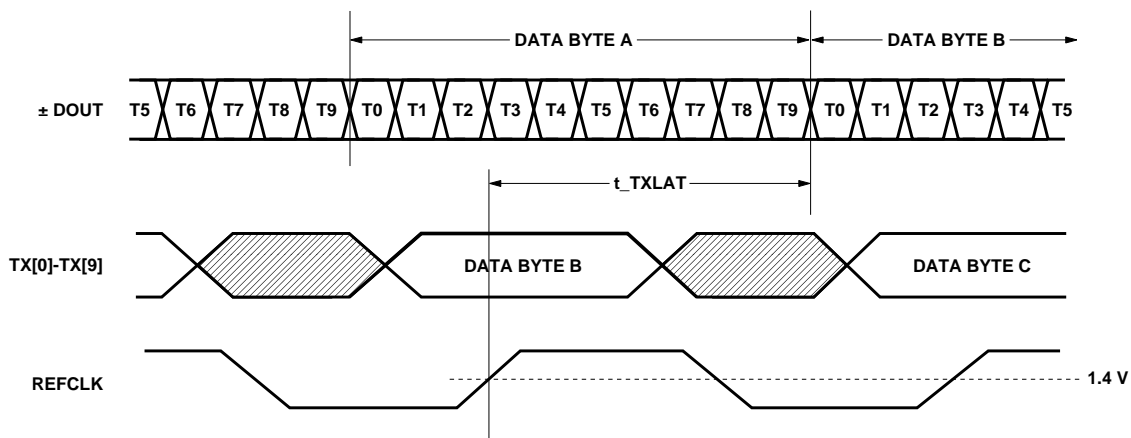

Figure 4. Transmitter Latency.
- The transmitter latency, as shown in Figure 4, is defined as the time between the latching in of the parallel data word (as triggered by the rising edge of the transmit byte clock, REFCLK) and the transmission of the first serial bit of that parallel word (defined by the rising edge of the first bit transmitted).
2. The transmitter latency, as shown in Figure 4, is defined as the time between the latching in of the parallel data word (as triggered by the rising edge of the transmit byte clock, REFCLK) and the transmission of the first serial bit of that parallel word (defined by the rising edge of the first bit transmitted).